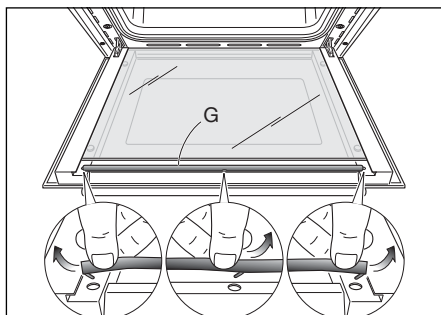

Fig.21d
- Remove the seal "G" by unhooking the three fixing hooks (Fig. 21d).